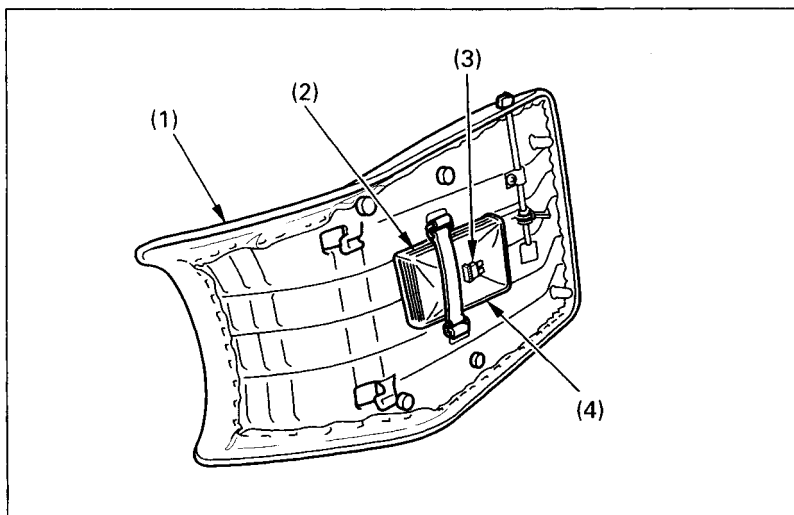

Fig. 2-31
The owner's manual storage area (Fig.2-31) is located under the seat (1).